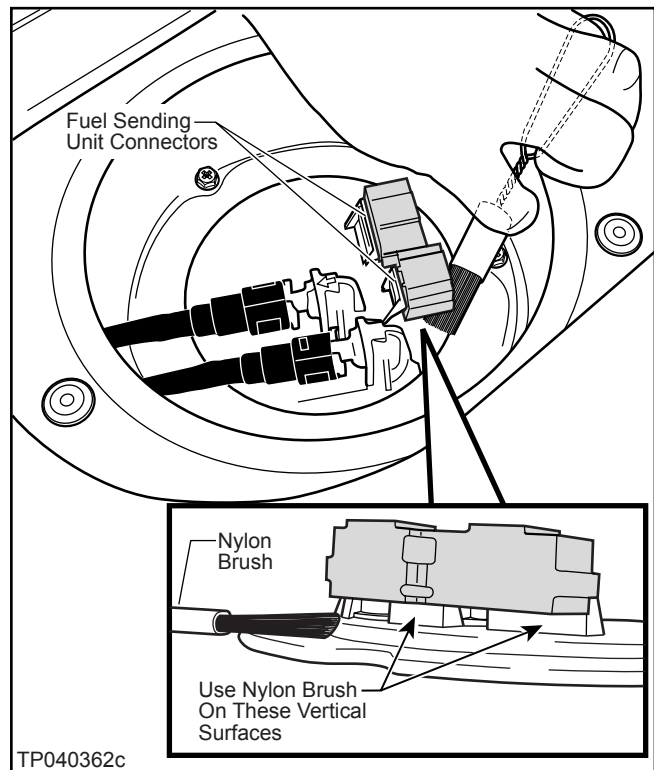

Figure 28
6. Use the Nylon Brush #J-47239 to loosen/remove dirt and debris on the vertical surface of the Fuel Sending Unit Connectors (see Figure 28).